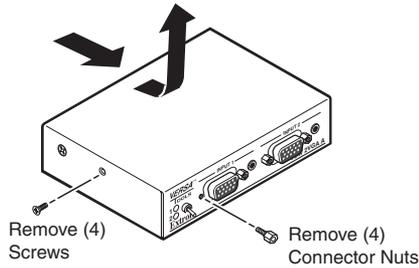

Figure 2-9 — Removing the cover
2. Remove the two screws on each side of the switcher (figure 2-9). Remove the four connector nuts on the front panel of the switcher. Lift the top cover off of the switcher.